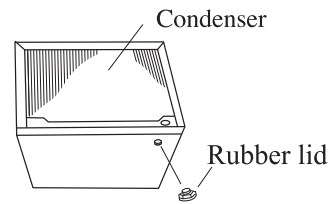

Fig. 5
4. Lift the back of the machine body slightly. You can see the drain hole at the back of the bottom plate. Plug the black rubber lid of the enclosed accessories into the hole. (see Fig. 5).